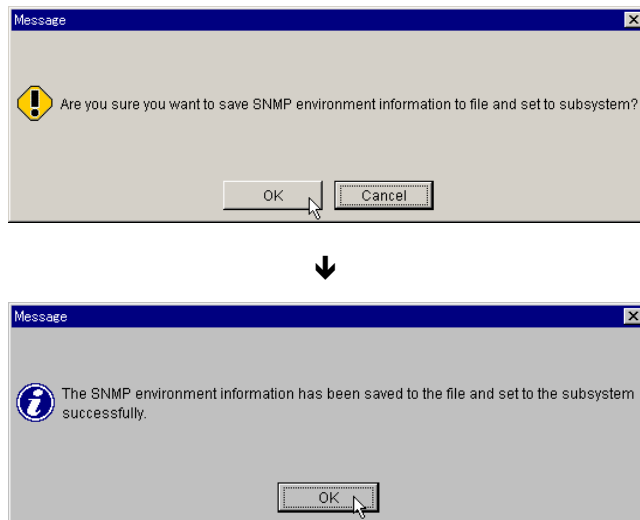

Figure 5.8 Confirmation Message
8. A message appears, confirming that the settings are complete (Figure 5.8). This message also asks you to restart the system. Click **OK**.